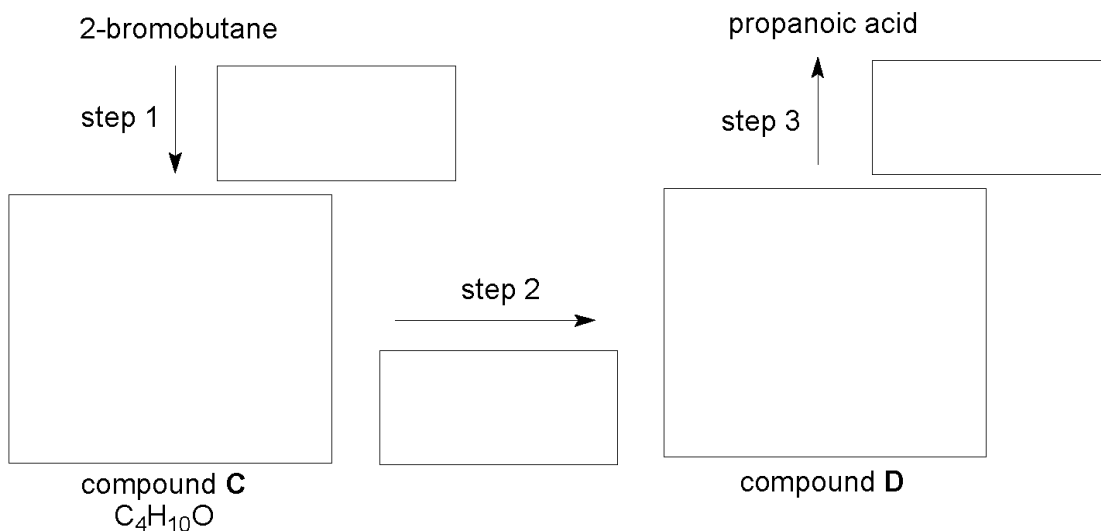

Fig. 3.2
- (e) 2-bromobutane can be used to synthesise propanoic acid by the three-step route shown in Fig. 3.2.